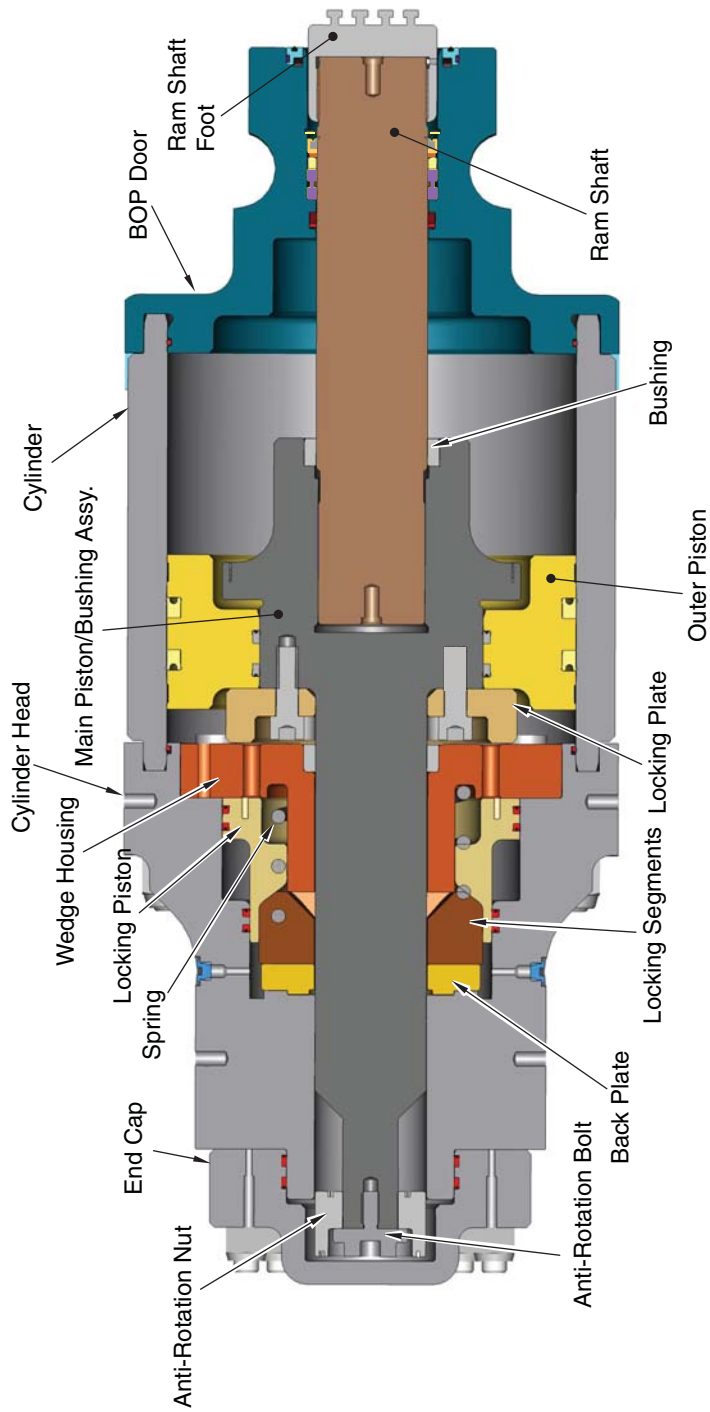

Figure 4-3. 22" PosLock Cylinder
The 18¾”, 15,000 psi (1,034 bar) NXT Triple Ram BOP contains the PosLock shear ram assemblies in the upper cavities. See Figure 2-1 on page 2-2 for ram BOP components. The shear ram assemblies are opened and closed by two 22” (558 mm) hydraulic operating cylinders per ram cavity (see Figure 4-3 on page 4-8). The BOP control system provides the adjustable open/close hydraulic power for operating the cylinders. The open/close hydraulic connections are similar to those described in the the section titled “UltraLock II (B) Operation” on page 4-4. See the table titled “BOP Hydraulic Operator Specifications” on page 4-5 for recommended closing/opening hydraulic pressure.
For component descriptions, see Figure 4-3 on page 4-8 and the engineering drawings located in Chapter 6, titled "Specifications and Parts Lists".